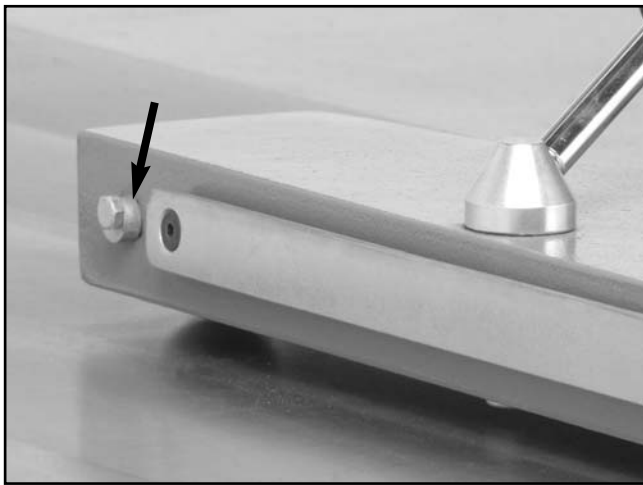

Figure 45. Installed clamp assembly.
8. Loosen the cam bolt located on the end of the fence clamp assembly (see **Figure 45**).